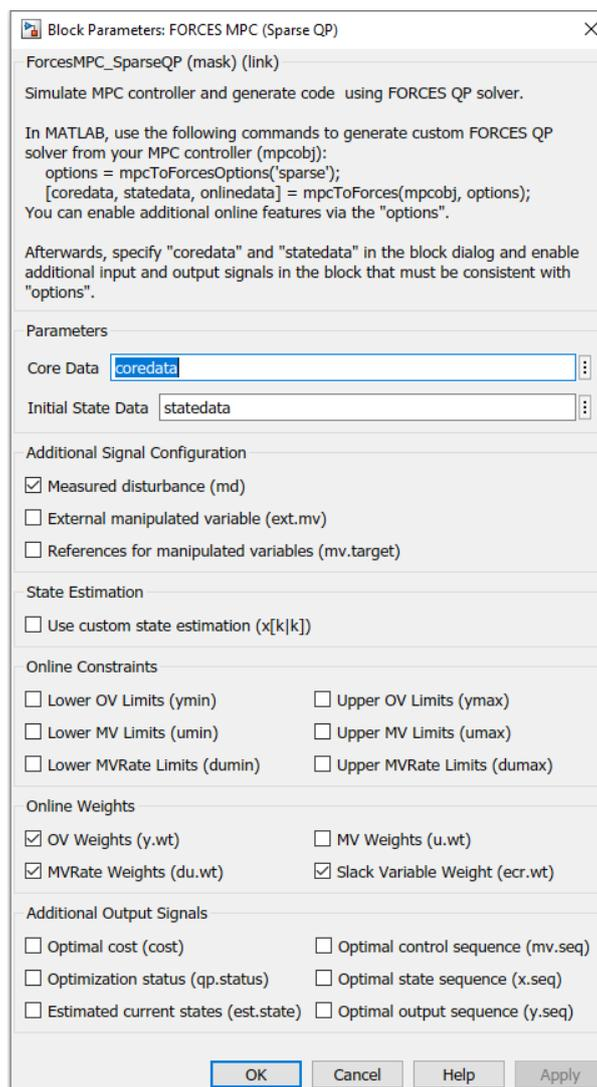
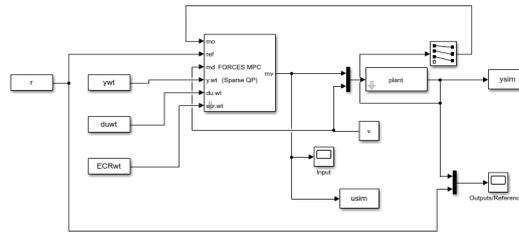

Figure 6.4: FORCESPRO MPC block configuration
Figure 6.5: FORCESPRO MPC block integration in a Simulink model
The FORCESPRO sparse solvers can be used inside Simulink to deploy to dSpace MicroAutoBox II. All features of the MATLAB plugin are available through this Simulink block, namely measured disturbances, external manipulated variables, references for manipulated variables, custom state estimation as well as online weights and constraints. Configuring the block is done via the user interface shown in Figure 6.4 below.
- Note that the option *ForcesTargetPlatform* needs to be specified. The structures *coredata* and *statedata* needed by the FORCESPRO solver are then provided to the Simulink block via the window shown in Figure 6.4. The integration of the FORCESPRO MPC block in a Simulink model is shown in Figure 6.5 below.